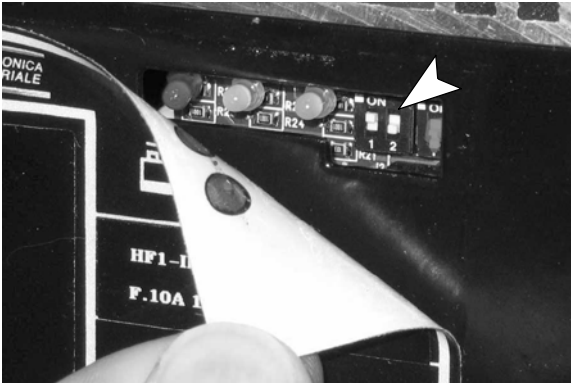

FIG. 36
- Peel back the corner of the display label on the charger to access the profile switches (Fig. 36).